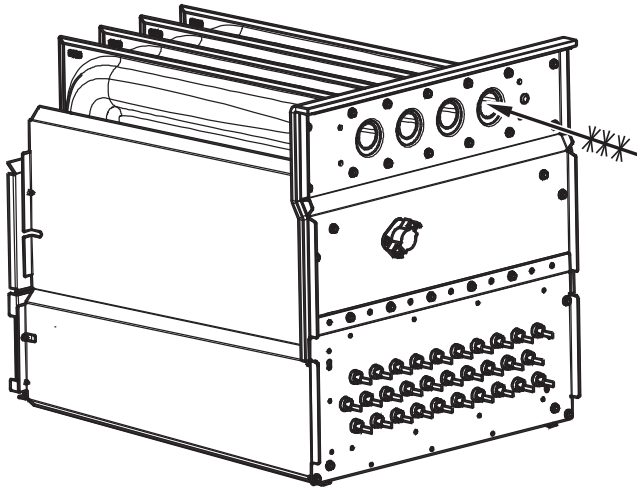

Fig. 61 - Cleaning Heat Exchanger Cell
7. Clean heat exchanger openings with a vacuum and a soft brush. See Fig. 61.